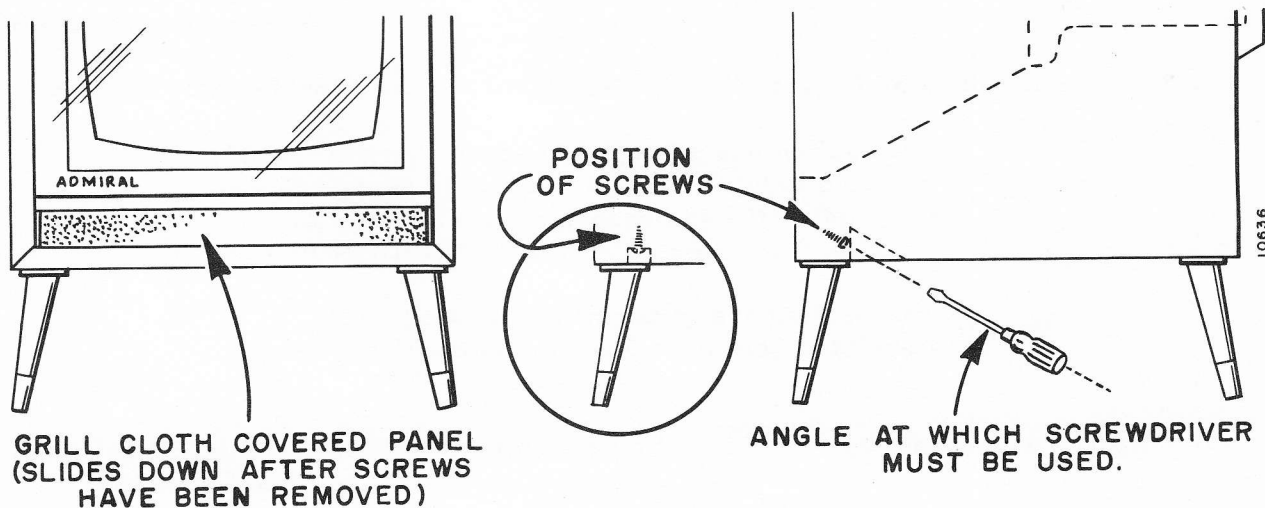

Figure 6. Front Panel Removal.
1. If front panel has not been removed, remove the four screws from under the removable panel (covered with grille cloth on most models) located on front of the set, directly under safety glass frame. See Figure 6. The panel can then be easily removed. (Do not replace panel until all color adjustments have been completed.)